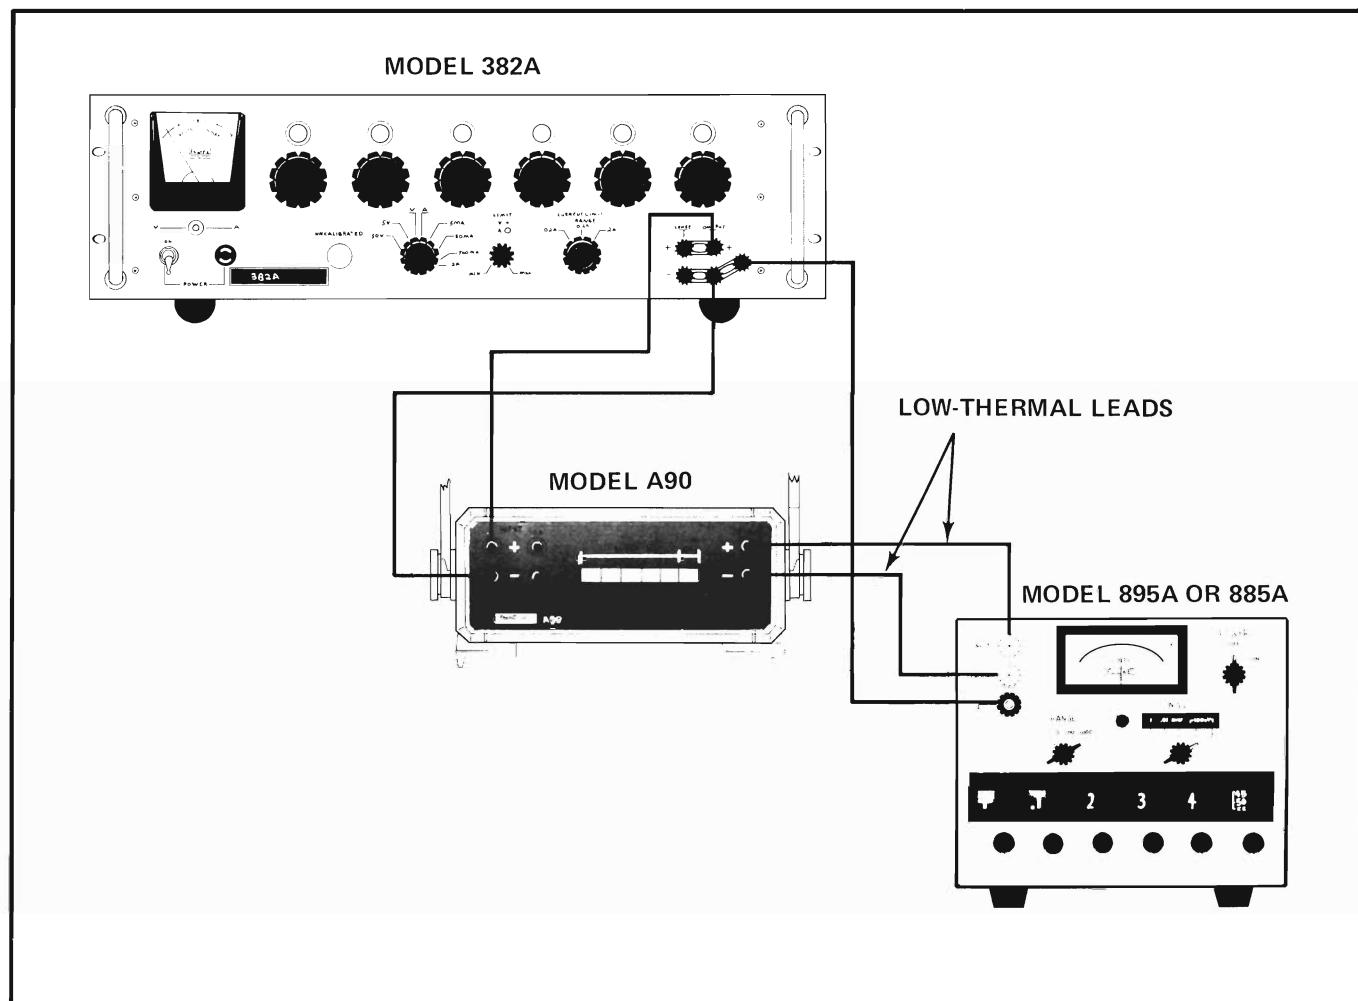

Figure 6-8. EQUIPMENT CONNECTIONS – 10 MA, 100 MA, AND 1000 MA RANGE CHECKS
6-34. 10 MA, 100 MA, AND 1000 MA RANGE CHECKS. Connect the constant current generator, differential voltmeter, and A90 as shown in Figure 6-8 and perform the following steps:
- 6-35. 10 AMPERE RANGE CHECK. Connect equipment as shown in Figure 6-8, leaving the constant current generator temporarily disconnected from the A90, and perform the following steps: